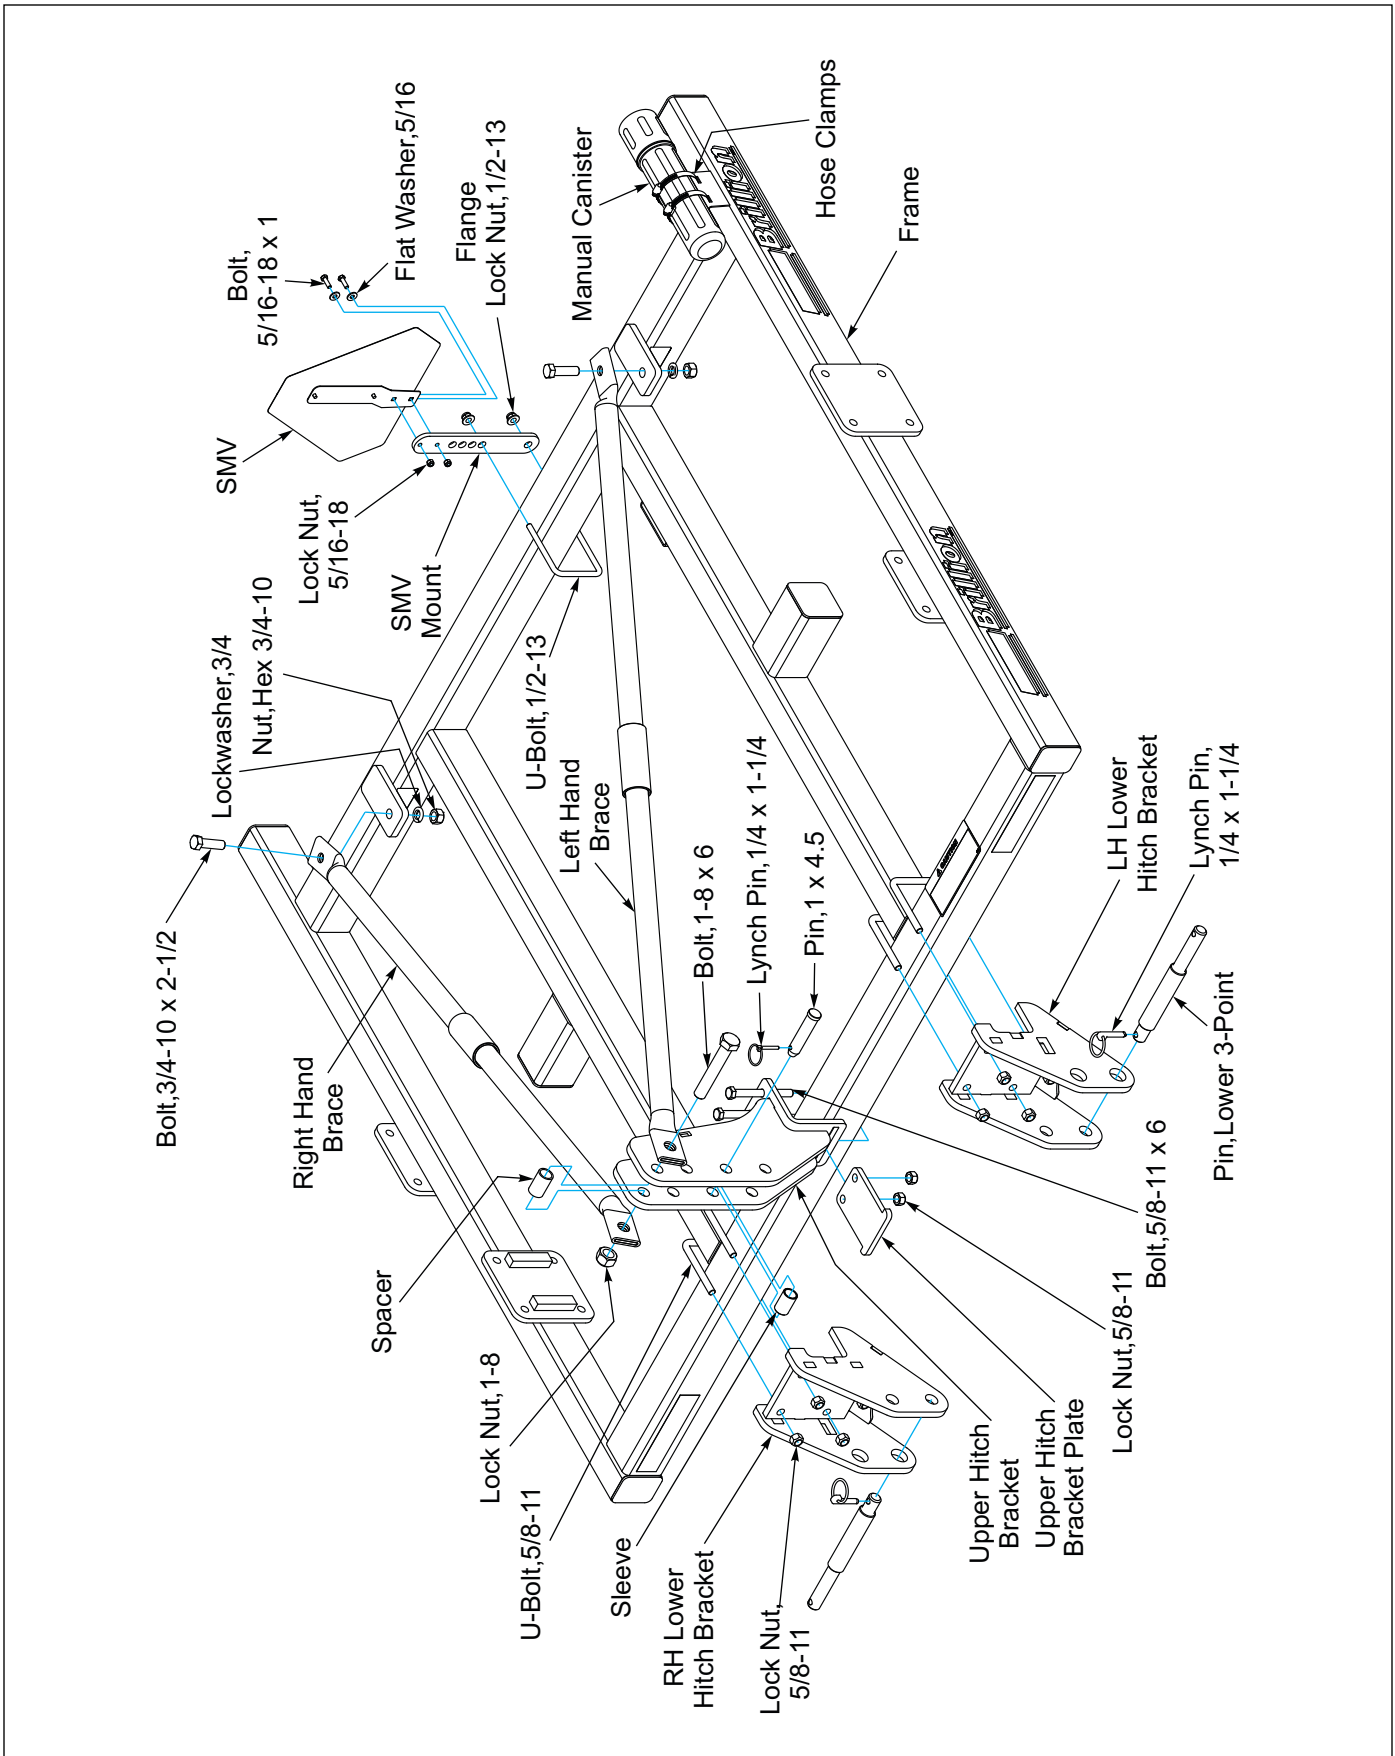

Figure 2-1: Frame
3. Assemble Upper Hitch Bracket to the center of the Front Frame Tube. Slide Upper Hitch Bracket Plate in the slot of the Upper Hitch Bracket and under the Front Frame Tube. Secure with 5/8-11 x 6 Bolts and Lock Nuts. **See Figure 2-1.**
6. Determine the category of tractor and Length of Shank that will be used and install the Upper and Lower Hitch pins into the Hitch Brackets. **See Figures 2-1, 2-3 and 2-4.**
Install the Manual Storage canister to the frame with Hose Clamps. **See Figure 2-1.**
Attach the SMV Mount about 4 inches left of center on the rear Frame Tube with 1/2-13 U-Bolt and Flange Lock Nuts. **See Figure 2-1.** Install SMV Sign to Mount with 5/16-18 x 1 Bolts, Flat Washers and Lock Nuts.